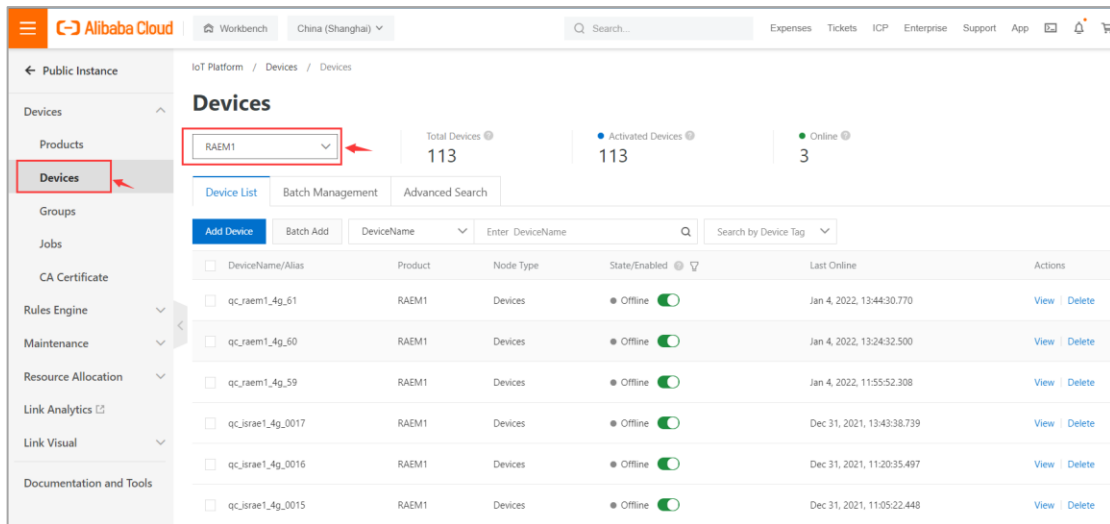

Fig. 6-24 Qingcheng Alibaba Cloud
- (2) Select **Devices** >> **Devices** in the left column (Figure 6-24). There are all devices listed below. Choose the device type **RAEM1** below the **Devices** to search for only RAEM1s. Click on the desired device name.